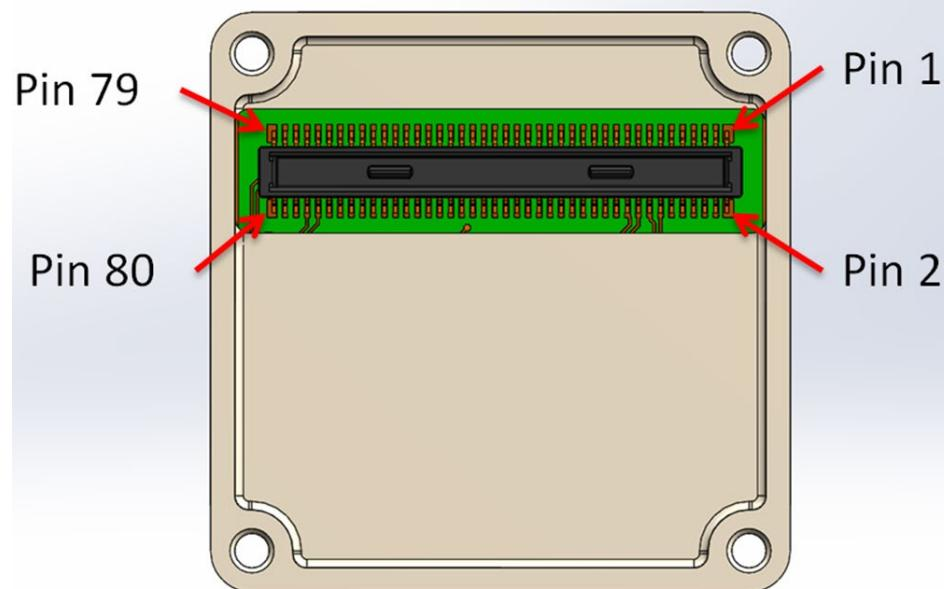

FIGURE 6: CONNECTOR PIN NUMBERING
Figure 6 shows the electrical interface to the Boson+ core, provided by a single 80-pin Hirose DF40C-80DP-0.4V(51) connector. The recommended mating connector is the Hirose 80-pin board-to-board receptacle (socket) DF40HC-(4.0)-80DS-0.4V(51), for a mating stack height of 4.0 mm. The correct orientation of the camera is as depicted, with the connector above the centerline. Rotating the camera 180 degrees so that the connector is below the centerline rather than above it will result in an upside-down image.